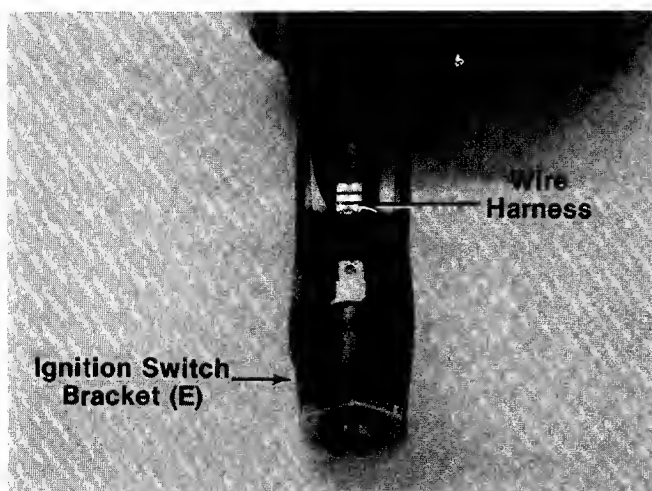

FIGURE 11.
19. Plug the two ends on the wire harness (already attached to the engine) into the terminals on the ignition switch bracket (E). See figure 11.